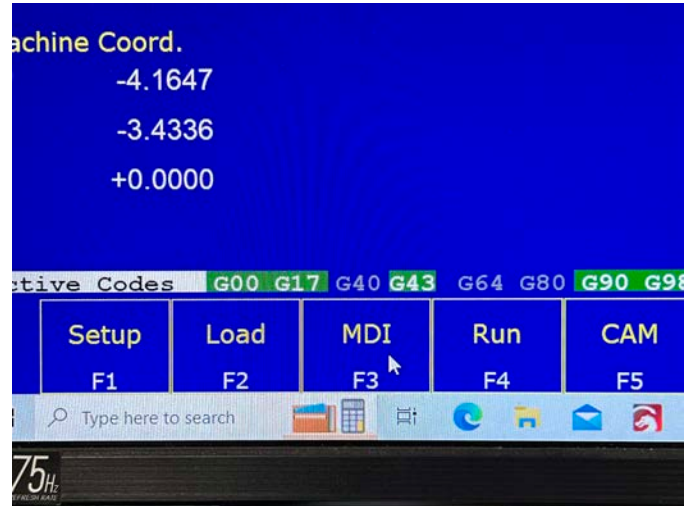

FIGURE 48
3. Go to MDI F3 (see Figure 48).